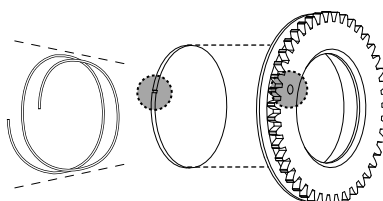

Figure 21: mounting gobo in holder
2. Insert the new gobo into the gobo holder with **the coated side towards the light source** (coated side towards gobo holder) while aligning both index marks (figure 21) of the gobo and the gobo holder.
3. Insert the conical spring, with the narrow end against the gobo (figure 21 and 18), by pushing its end under the lip of the gobo holder. Check that the gobo is secured in place.